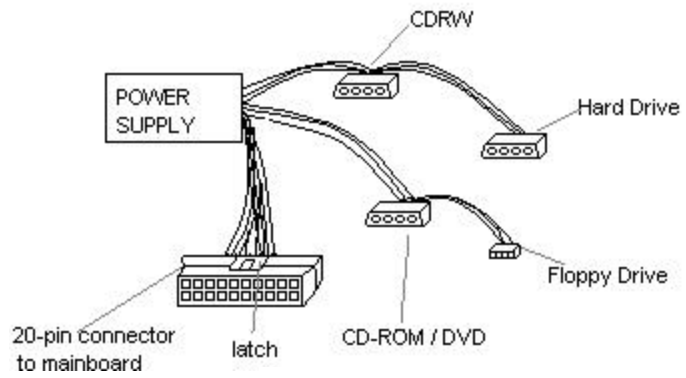

Figure 4
Squeeze the latch on the 20-wire connector and pull the connector to disconnect the power supply from the motherboard (Figure 4).
Step 9: Attach the connectors from the power supply to all your computer's components (Figure 4):
Reconnect the 20-pin connector from the power supply to the motherboard (Figure 4). Press until you hear a click.